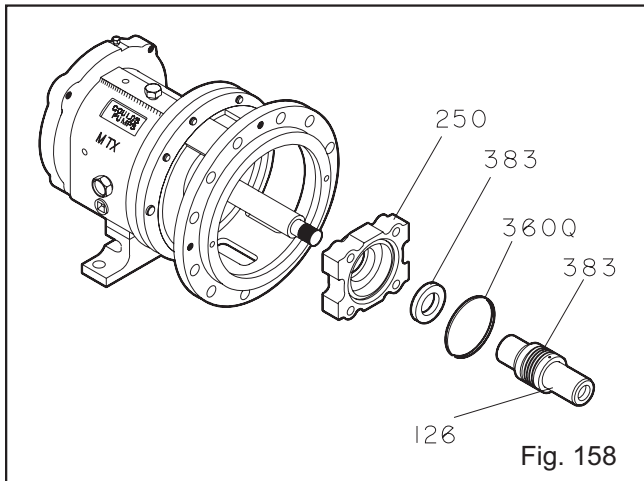

Fig. 158
11. Install stationary seat into gland (107) per seal manufacturer's instructions.
12. Slide gland (107) with stationary seat over shaft, up to adapter face (Fig. 158).
13. Install mechanical seal on shaft (122) or shaft sleeve (126) per seal manufacturer's instructions. Install shaft sleeve (126) if used (with seal).